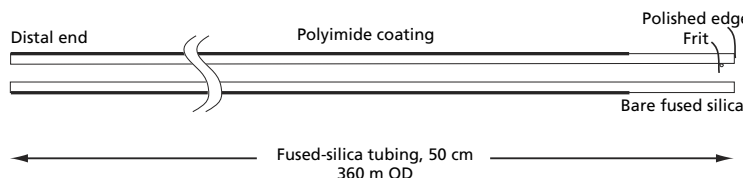

FIGURE 1 IntegraFrit™ Self-Pack Column prior to packing
Self-Pack IntegraFrit™ Columns are designed for customers custom-packing their own nanobore liquid chromatography columns. Self-Pack IntegraFrit Columns are 50cm-long 360 µm outer diameter (OD) fused-silica tubes with a porous, sintered glass frit at one end. The edge of the fused-silica tubing at the frit has been polished flat; the distal or back end of the fused-silica capillary is open and contains no frit (Figure 1). Depending on desired flow rate, Self-Pack IntegraFrit™ Columns are available in 50 µm, 75 µm, 100 µm, and 150 µm inner diameters (IDs).